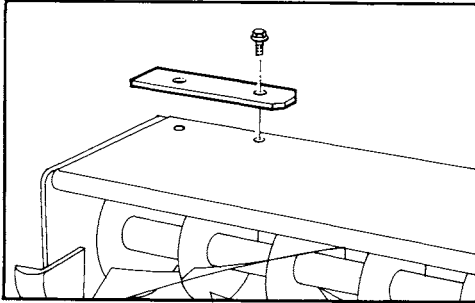

Figure 1
2. Align tipper brackets with mounting holes in cover and frame. Brackets should be so that square end of bracket is toward end of cutting unit (Fig.1).